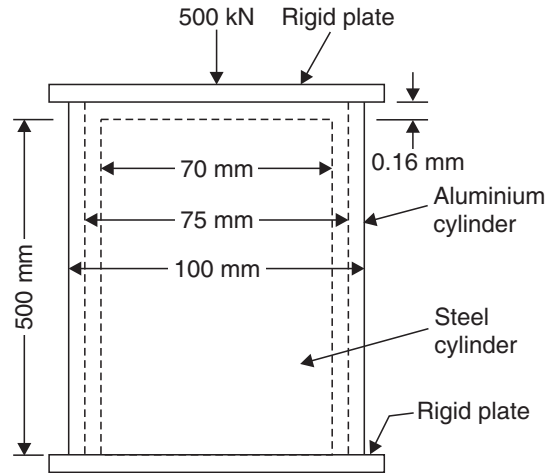

Fig. 12.23
**Example 12.16.** A solid steel cylinder 500 mm long and 70 mm diameter is placed inside an aluminium cylinder having 75 mm inside diameter and 100 mm outside diameter. The aluminium cylinder is 0.16 mm longer than the steel cylinder. An axial load of 500 kN is applied to the bar and cylinder through rigid cover plates as shown in Fig. 12.23. Find the stresses developed in the steel cylinder and aluminium tube. Assume for steel,  $E = 220 \text{ GN/m}^2$  and for aluminium  $E = 70 \text{ GN/m}^2$ .
**Sol.** Refer to Fig. 12.23.